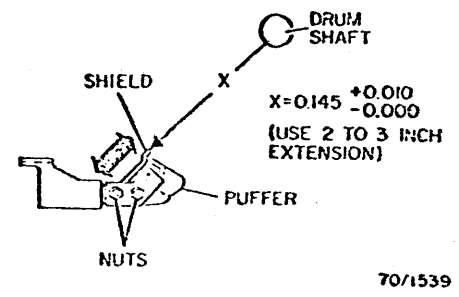

Fig. 3-184. Miss Detector Shield
2. Adjust the shield to the dimension in Fig. 3-184, taking measurements 1/8-inch from both the inboard and outboard edges of the shield.